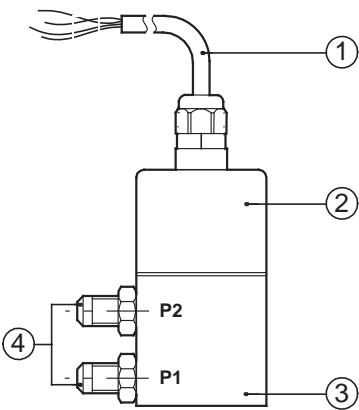

Fig. 65 DPI position numbers
A cable (pos. 1) goes through an M12 x 1.5 pg connection. See fig. 65.